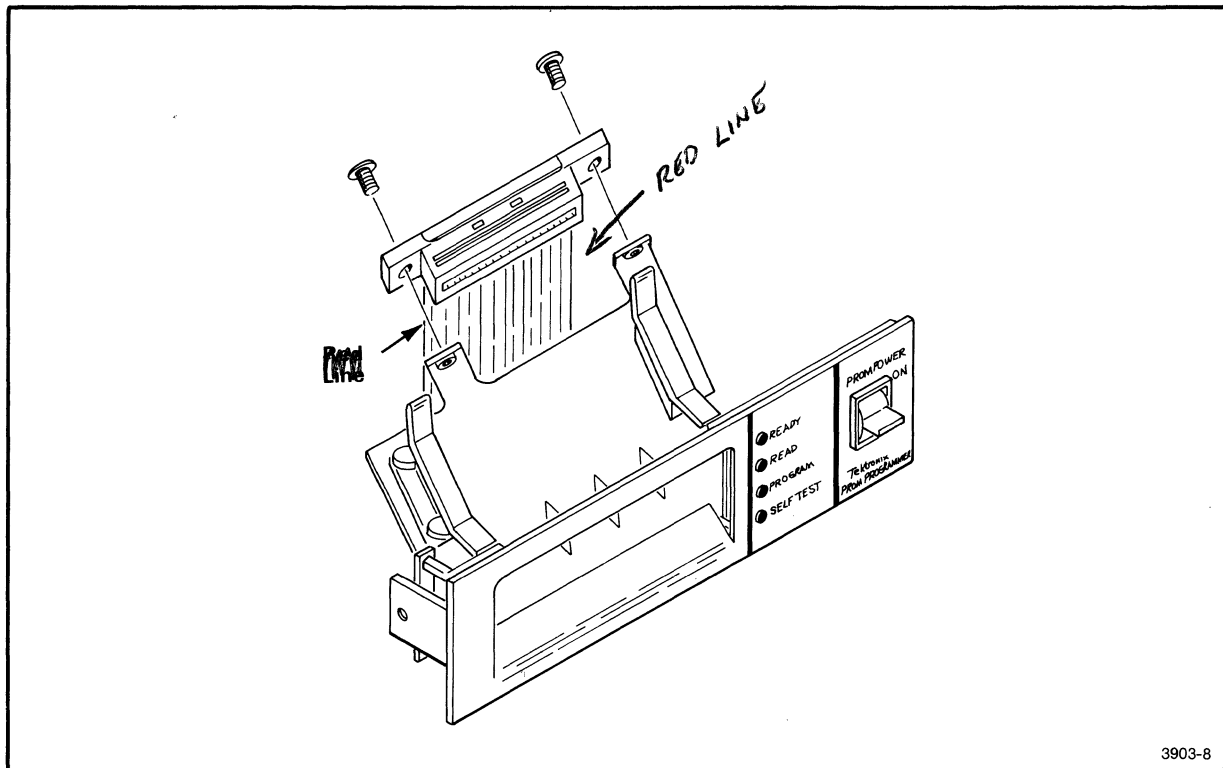

Fig. 2-5. Front panel assembly - flat cable connection.
4. Connect the PROM Programmer front panel assembly to the front connector of the 50-conductor cable, as shown in Fig. 2-5. Use two #4 Phillips-head screws.
In Fig. 2-5, the red line should be on the right edge of the 50-conductor flat cable, and not on the left edge, as shown.